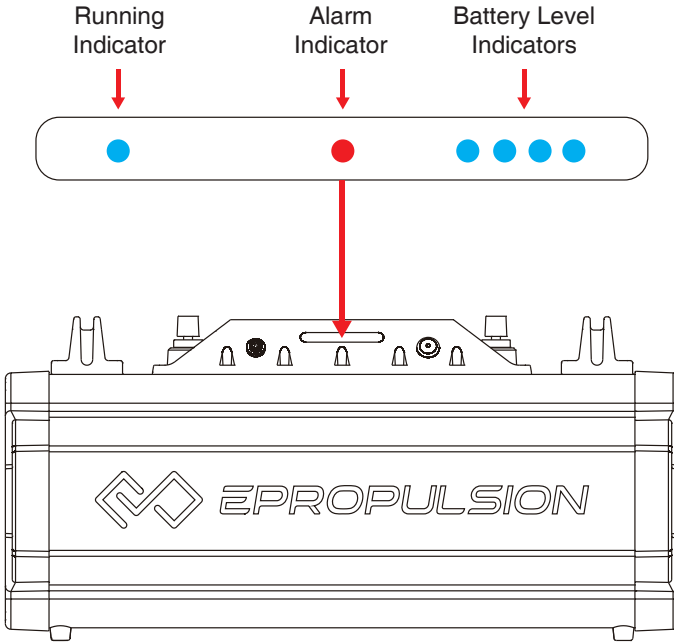

Figure 3-6
3. Press on/off-switch to turn on the battery. The running indicator (refer to figure 3-6) illuminates constantly while the battery level indicators will blink when it starts to charge.
Below Figure 3-6 displays the six LED indicators on the indicating panel of NAVY Battery: one running indicator, one alarm indicator and four battery level indicators.